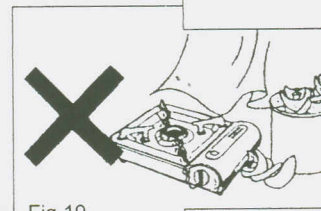

Fig.19
4. Place unit sufficiently away from inflammables such as curtain, etc. (Fig. 19)